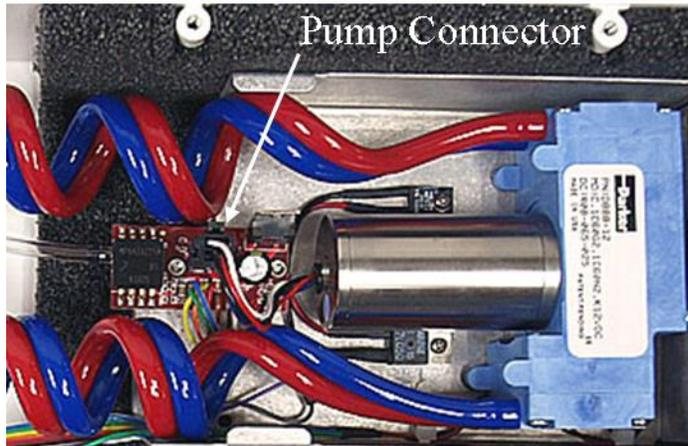

FIGURE J-7. Location of pump connector in AP200 pump electronics
6. Remove pump connector from the pump electronics (FIGURE J-7).
3. Reattach the pump connector to the pump electronics (FIGURE J-7).